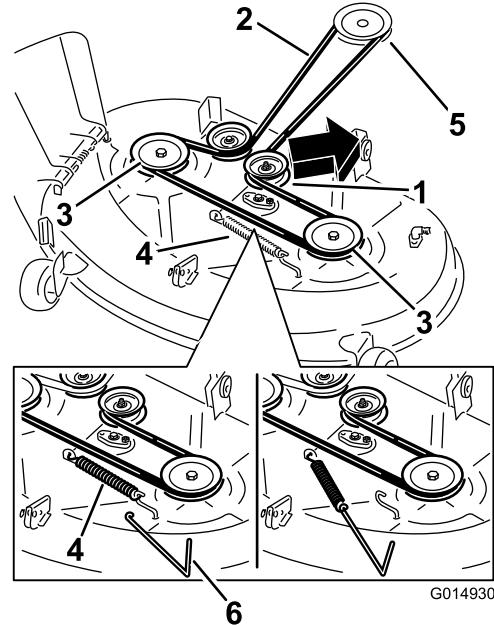

Figure 56
remove tension on the idler pulley and roll the belt off of the pulleys (Figure 56).
5. Route the new belt around the engine pulley and mower pulleys (Figure 56).
6. Using a spring removal tool, (Toro part no. 92-5771), install the idler spring over the deck hook and placing tension on the idler pulley and mower belt (Figure 56).